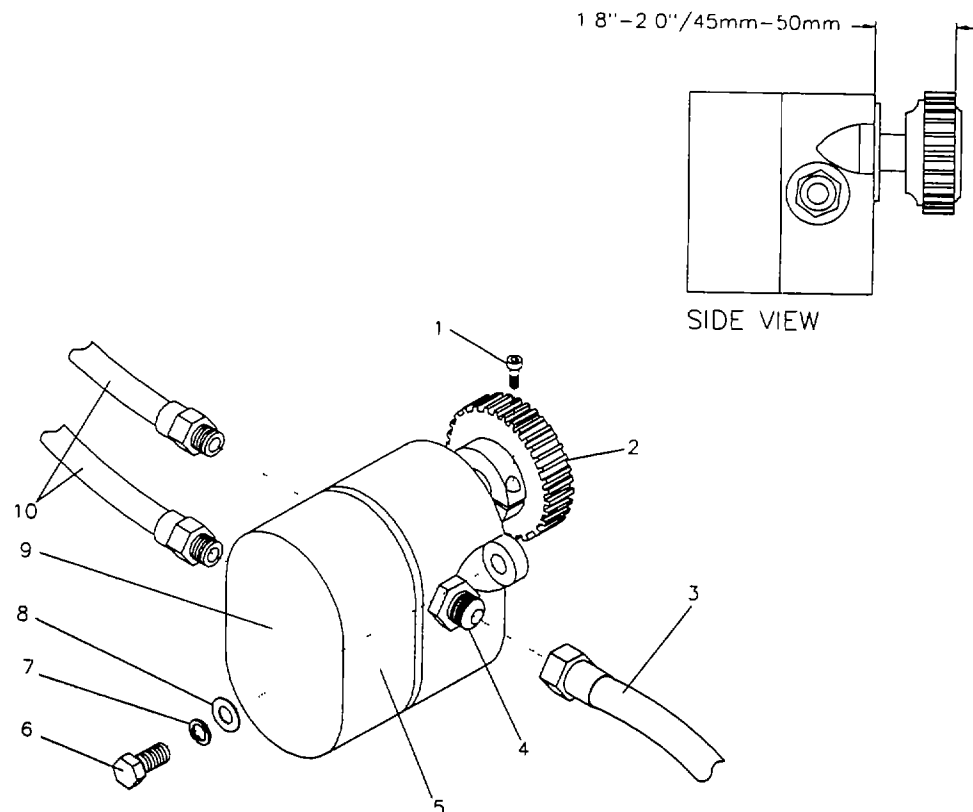

Figure 6-1. Pump.
a. Removal. Refer to figure 6-1.
- 2) Remove screws (6), flatwashers (8) and lockwashers (7) holding pump (5) to engine.
- 3) Slide the pump (5) rearward.
- 4) Loosen screw (1) in the pump coupling (2) and remove coupling (2).
- 5) Remove the two discharge hoses (10) from the pump.
b. Installation. Refer to figure 6-1.
- 1) Install the coupling (2) on the pump (5) so the front face of the coupling is 1.8/2.0 inches (46/50 mm) from the front face of the pump. Tighten setscrew (1) in the coupling (2).
- 2) Install the two discharge hoses (10) to the pump (5).
- 3) Install the pump (5) on the engine rotating it slightly to align the splines. Make sure the side of the pump with the single inlet port is on the same side as the inlet hose (3) and the double port side faces the discharge hoses (10). Install lockwashers (8), flatwashers (7), screws (6) and tighten.